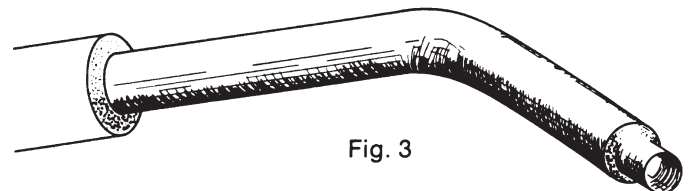

Fig. 3
STEP FIVE: Slide one end of the hose on to the port connection on the side of the canister. This will be a snug fit. Slide the metal nozzle into the other end of the hose with the crimped end OUT. See Fig. 3.
- **The metal nozzle** allows ash to be removed quickly while larger particles are left behind to be burned at a later date. (Fig. 3)